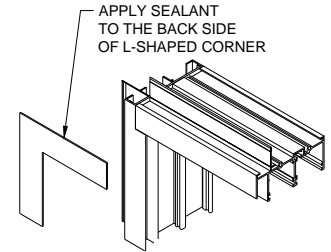

Figure 2a
4. Non-porous, non-absorbent, inorganic shims are then required to be applied to the framed opening sill to support the window and maintain it in a straight and level condition and to prevent rotation. Apply sealant to the back side of the L-shaped aluminum corner pieces (if required) and attach to the exterior face of the nail-fin at the corners as shown in figure 2a. Apply a continuous ½" bead of sealant to the backside (interior) of the nail-on flange at the head and jambs only. **Do not apply sealant on the backside of the nail-on flange**